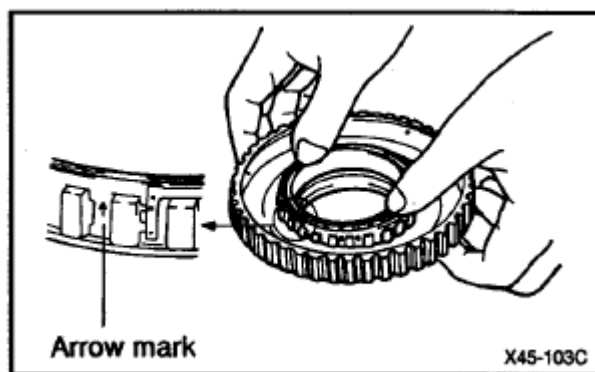

Fig. 172: Pressing Over Running Clutch Into Outer Race
7. Press the over running clutch into the outer race. Be sure that the arrow on the outside circumference of the cage is pointing upward as shown in **Fig. 172** when the overrunning clutch is installed.